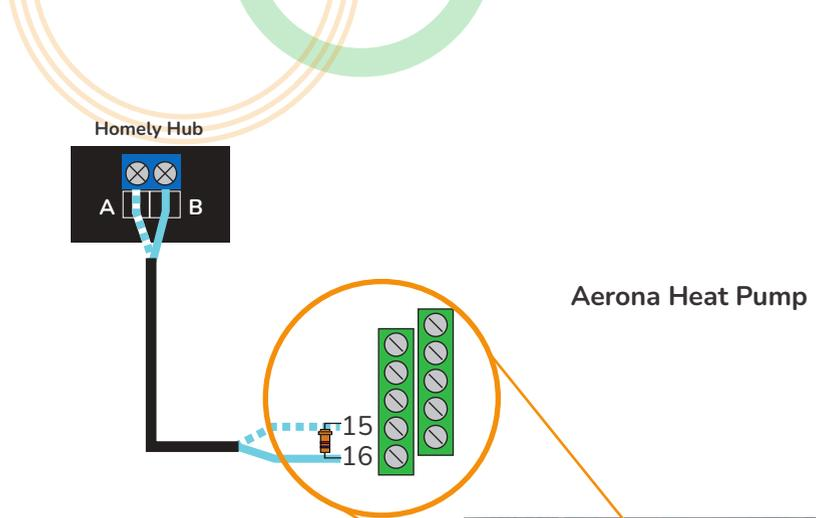

figure 7
3. The supplied 120-ohm resistor must be placed between the outdoor unit's control PCB terminals as shown on the next page (figure 7).